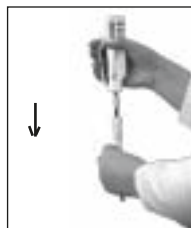

Fig. 10
3. Unscrew, anti-clockwise, the nose cone and remove it, exposing the piston (Fig.10). If the piston is stuck to the tip cone remove it with a pair of tweezers.